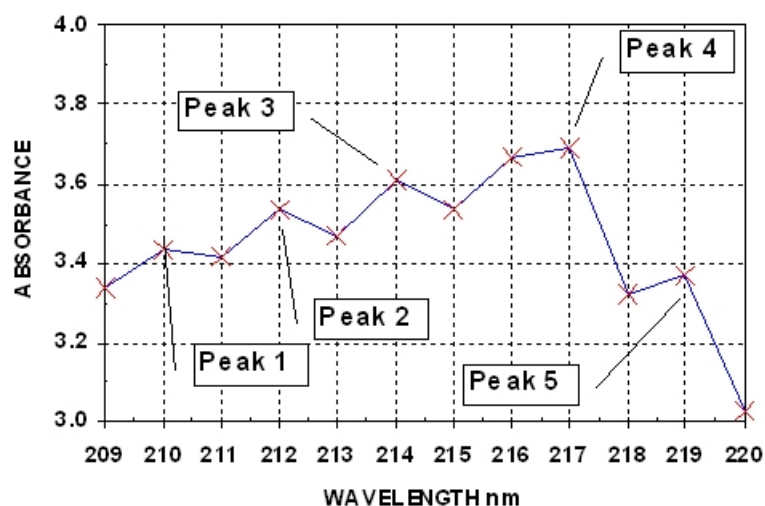
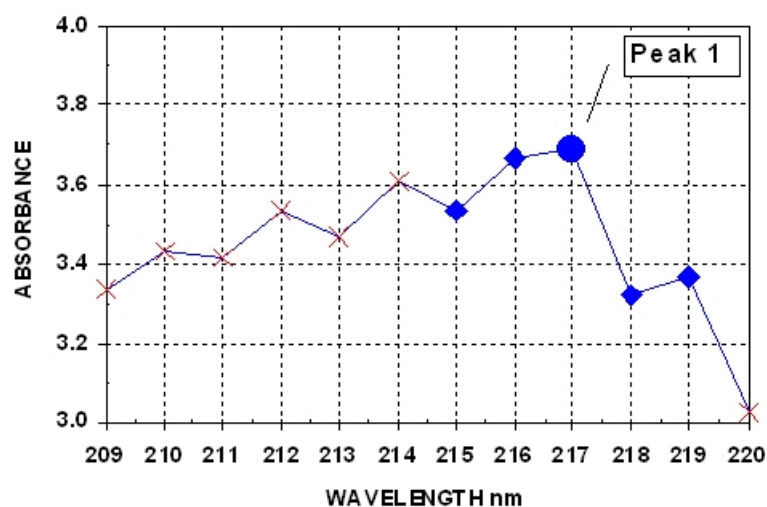

Figure 10-4. Spectral peak search with window count 1
Figure 10-5. Spectral peak search with window count 2
A peak is defined by comparing the window count of adjacent measurement values to a possible peak value. If the window count of values before and after a possible peak value is smaller than the possible peak value, then the possible peak value is a true peak value (Figure 10-4 and Figure 10-5).
- **Window (1...3)** - See Figure 10-4 and Figure 10-5.